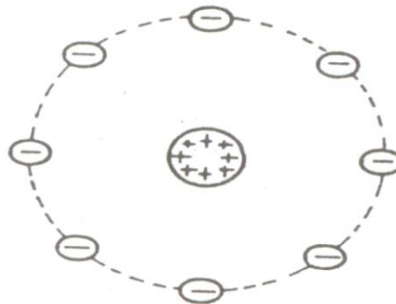

Fig.3 Neutral Atom
- The centers of positive charge and negative charge are coincident as long as there is no external electrical field (fig. 3)